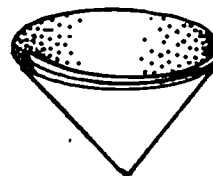

FIGURE 1: *Making a filter.*
6. Make a filter by folding the filter paper first into a semicircle and then into a quarter circle. Open the paper into a funnel shape as shown in Figure 1.